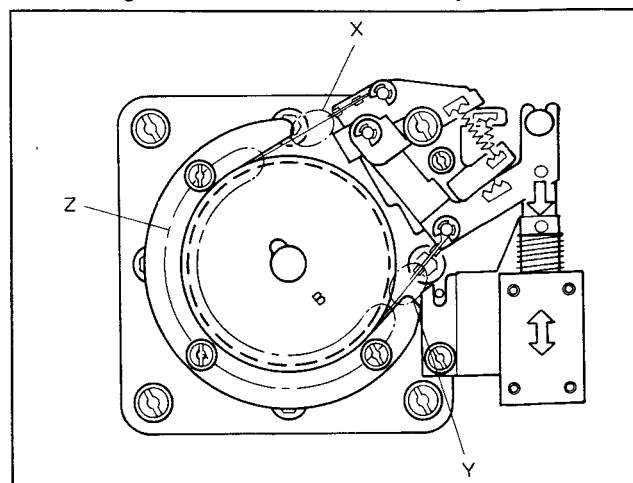

Fig. 3-38. Solenoid Assembly Position Adjustment
8. When the plunger has been pressed, adjust the position of the brake solenoid so that the brake band is not transformed at the "X" and "Y" shown in Fig. 3-38, and the clearance between the brake band and the brake adjustment fixture is 0.2 mm or more along the "Z". After the adjustment, fix the brake solenoid firmly with a PSW3×8 screw.